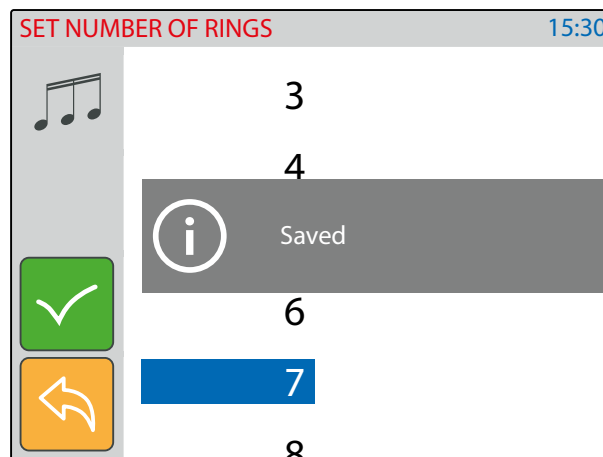

Fig. 12 Save the selected value
⚠ In order to prevent water ingress we highly recommend using a silicon sealant between the module support frame **(H) and the back box ON THE LEFT, TOP AND RIGHT SIDES ONLY. DON'T USE SILICON SEALANT ON THE BOTTOM SIDE OF THE MODULE SUPPORT FRAME (Fig.12);**
- Swipe among the values to select the required then tap on the tick button to confirm (Fig. 12).
- A notice will inform that the value is saved (Fig. 12).